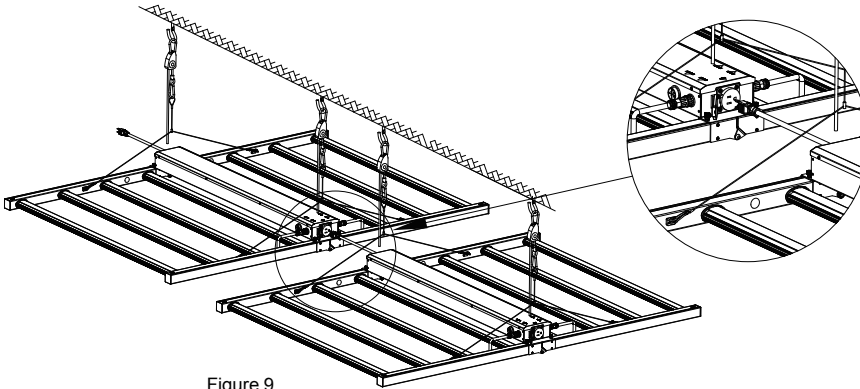

Figure 9
- 9: If the lamps need to be in parallel, please complete the above steps, then plug the AC input cord into the AC parallel socket. (Figure 9)